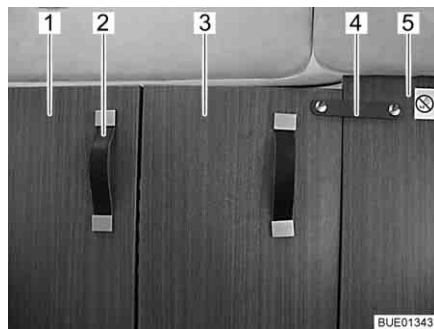

Fig. 58 Driver's cabin partition, closed
- Pull the driver's cabin partition (Fig. 58,1) completely inwards using the handle (Fig. 58,2).
- Using the securing strap (Fig. 58,4), secure the folding section of the driver's cabin partition (Fig. 58,3) to the fixed partition wall (Fig. 58,5) behind the front passenger seat.